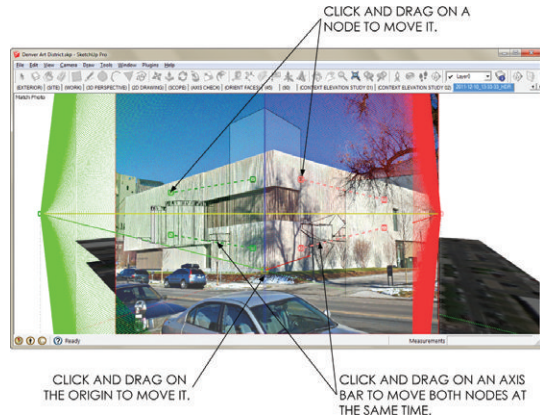

Figure 16.11 Manipulate the Match Photo axis bars and origin.
- Align the axis bars with parallel elements on the building, such as window headers and mullions, ledges, and roof lines. The green axis bars should be aligned with parallel elements on the west side of the building, and the red axis bars should be aligned with parallel elements on the south side of the building (Figure 16.11).